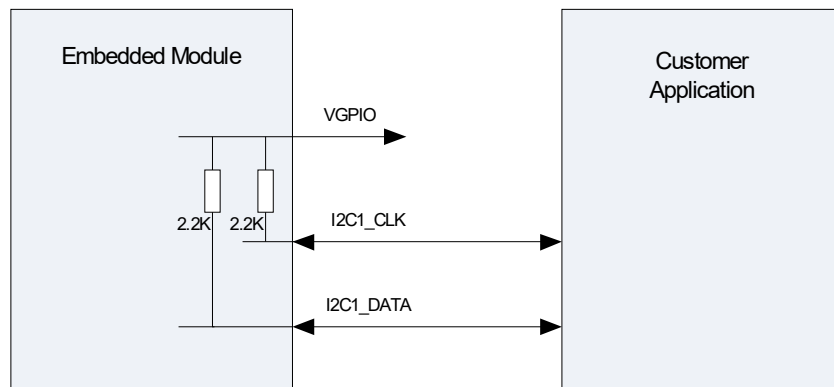

Figure 4-4: Example of I²C Bus Application
- I²C signals are implemented internally as open drain outputs (per the I²C specification) with 2.2 kΩ pull-up resistors to VGPIO (see Figure 4-4 on page 76).